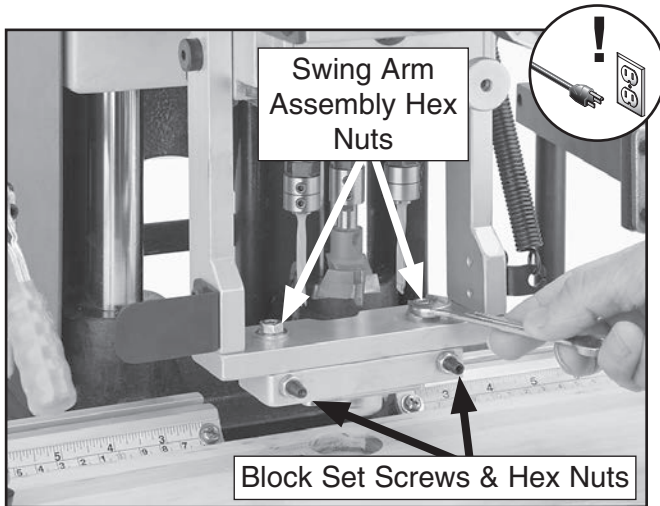

Figure 43. Loosening swing arm adjustment hex nuts.
- Loosen the two hex nuts on the swing arm assembly and the two hex nuts on the swing arm block, then loosen the set screws on the block several turns (see **Figure 43**).